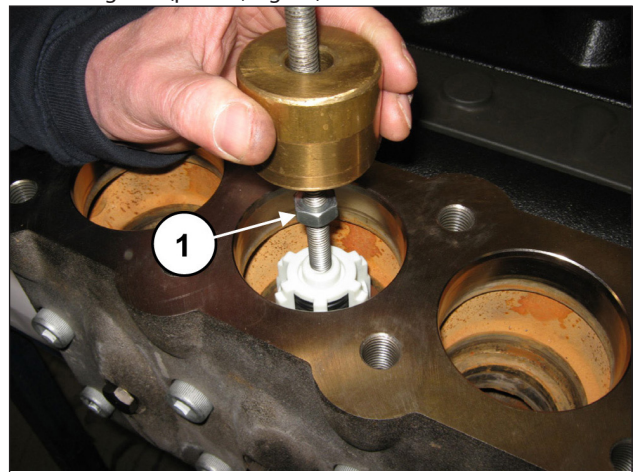

Fig. 98
Extract the outlet valve unit with the use of an extractor hammer (code 27516400) to be applied on the M10 hole of the valve guide (pos. ①, Fig. 98).